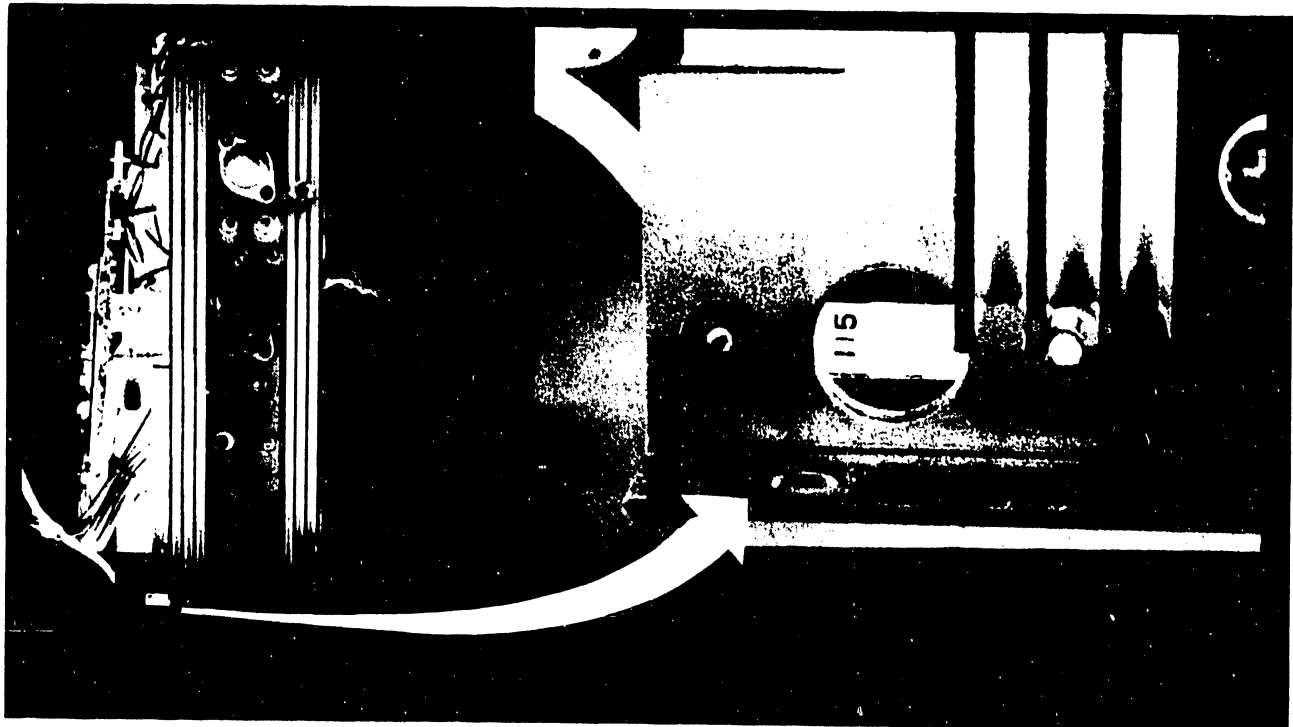
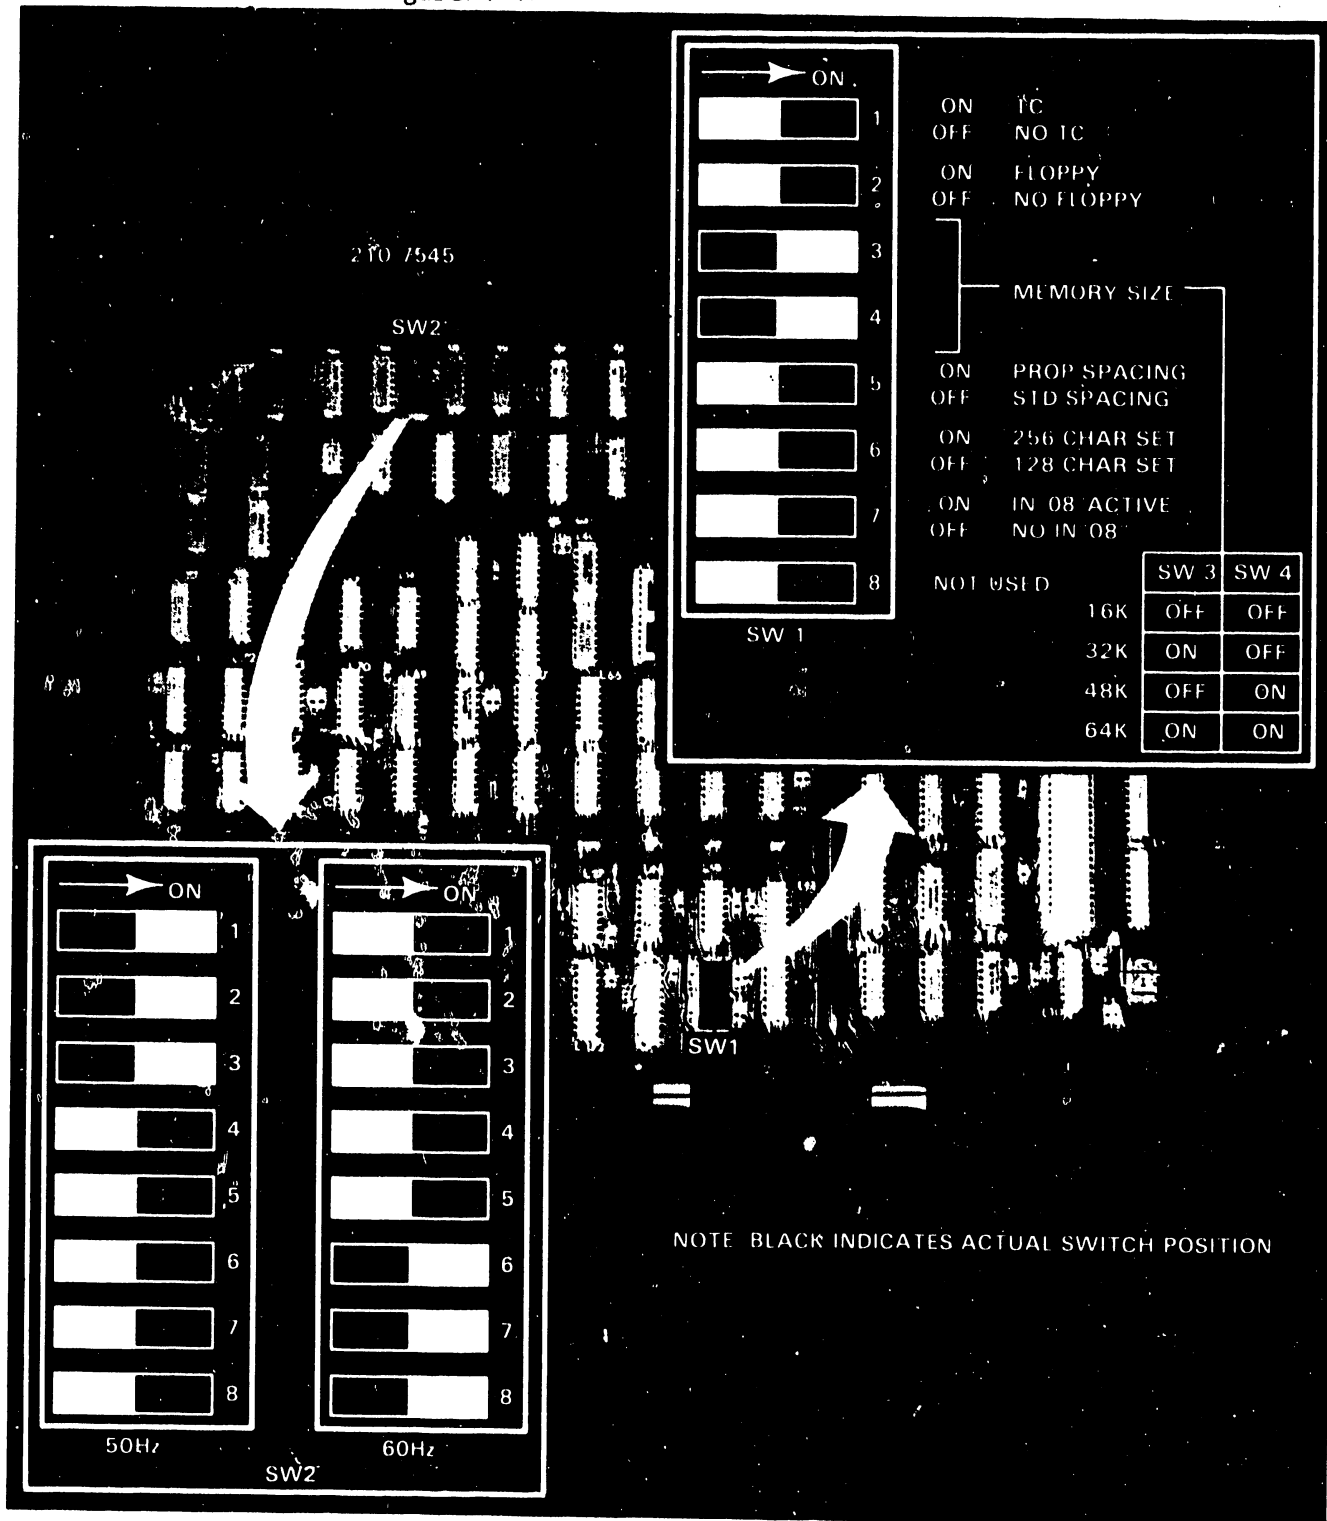

Figure 4-1. 115/230 Switch Location
Figure 4-4. 210-7545 Switch Settings
- o Check the serial tag attached to the workstation power cord. Set the voltage select switch on the power supply to the appropriate position (115 or 230; figure 4-1) and ensure that switch 2 on the 210-7545 PCA is configured correctly (figure 4-4).
- o The CPU/CRT PCA (210-7545-2) has two DIP type switches, labeled SW1 and SW2. SW1 is the scan select switch described in section 4.4.1. SW2 is the device type switch. Set the switches for the appropriate application as shown in figure 4-4.
- o Connect the TC cable between the TC connector on the rear of the workstation (figure 4-4), and to the appropriate modem.
- o Set the TC option switch on the 210-7545 PCA (figure 4-4).